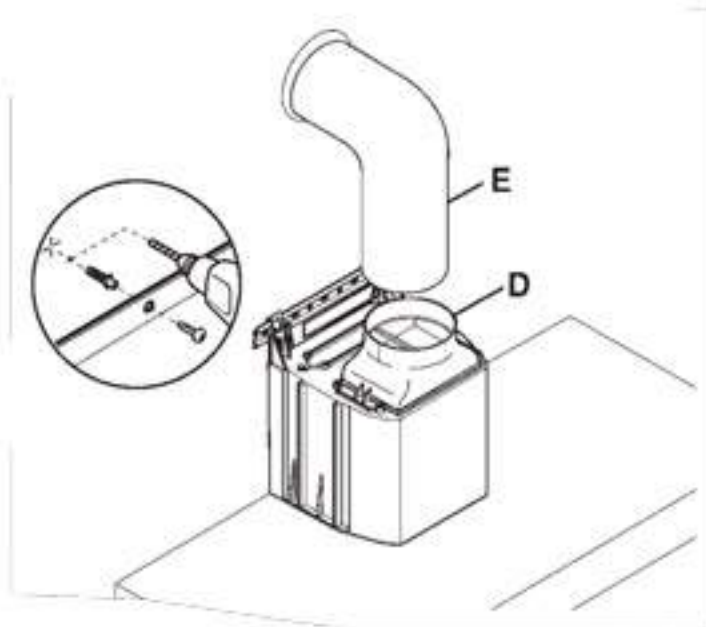

Fig. 3
- To prevent the range hood from detaching due to pressure from below, fasten it to the wall using a screw anchor and screw, through the corresponding hole (Fig. 3) on the rotor box or inside the hood.
- Insert the duct (E) on the ducting connection (D). Hood assembly instructions.